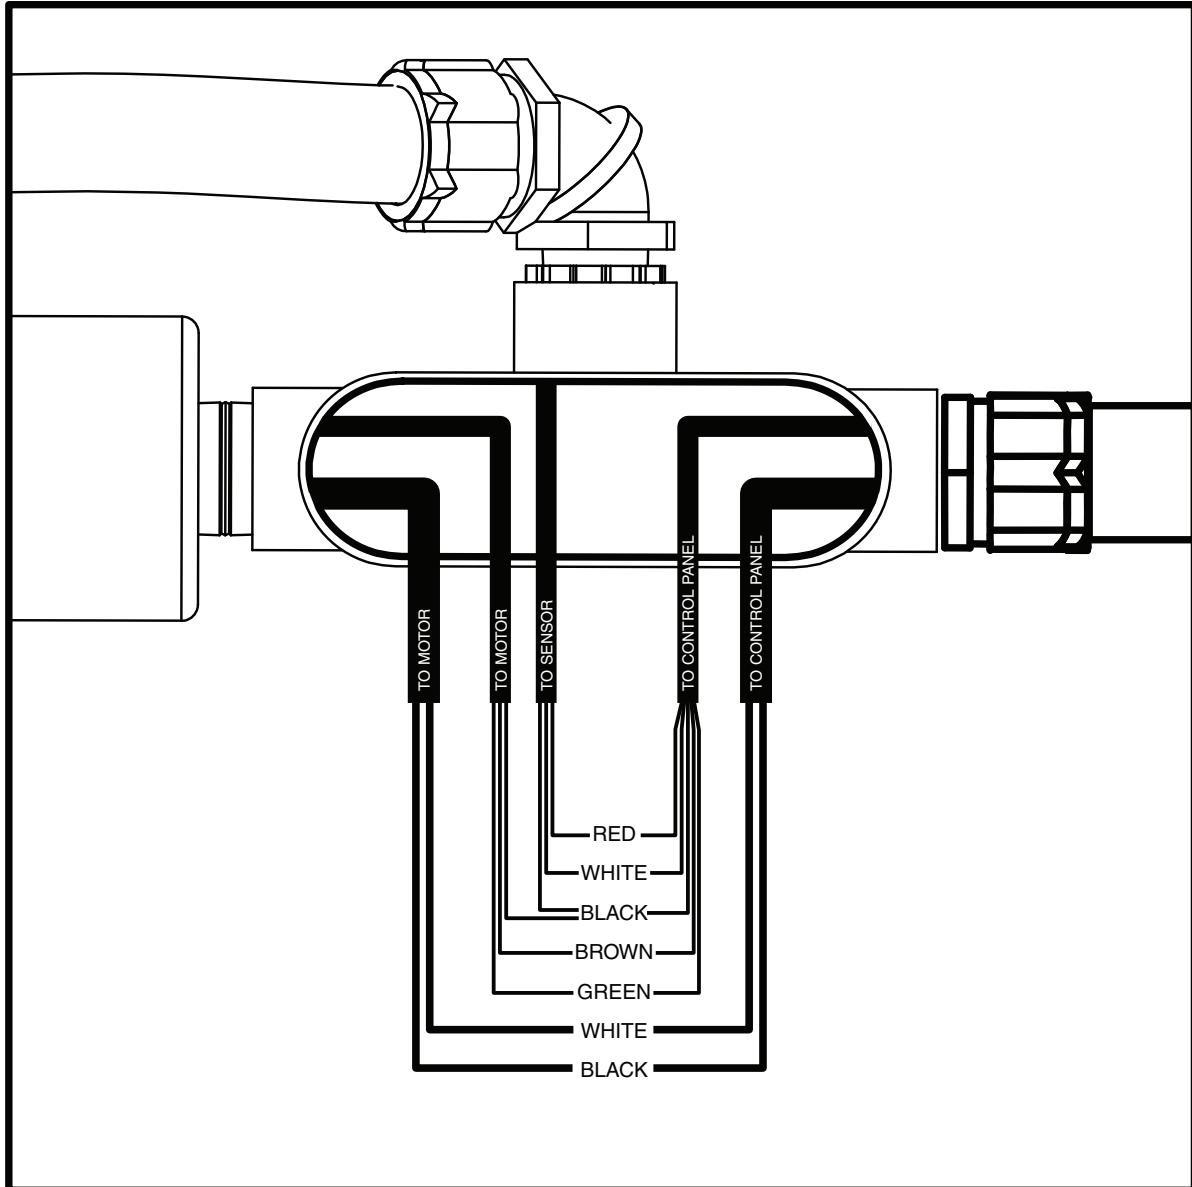

Figure 8. Tensioner Electrical Connections
2. Connect wires as shown in Figure 8 using supplied connectors.